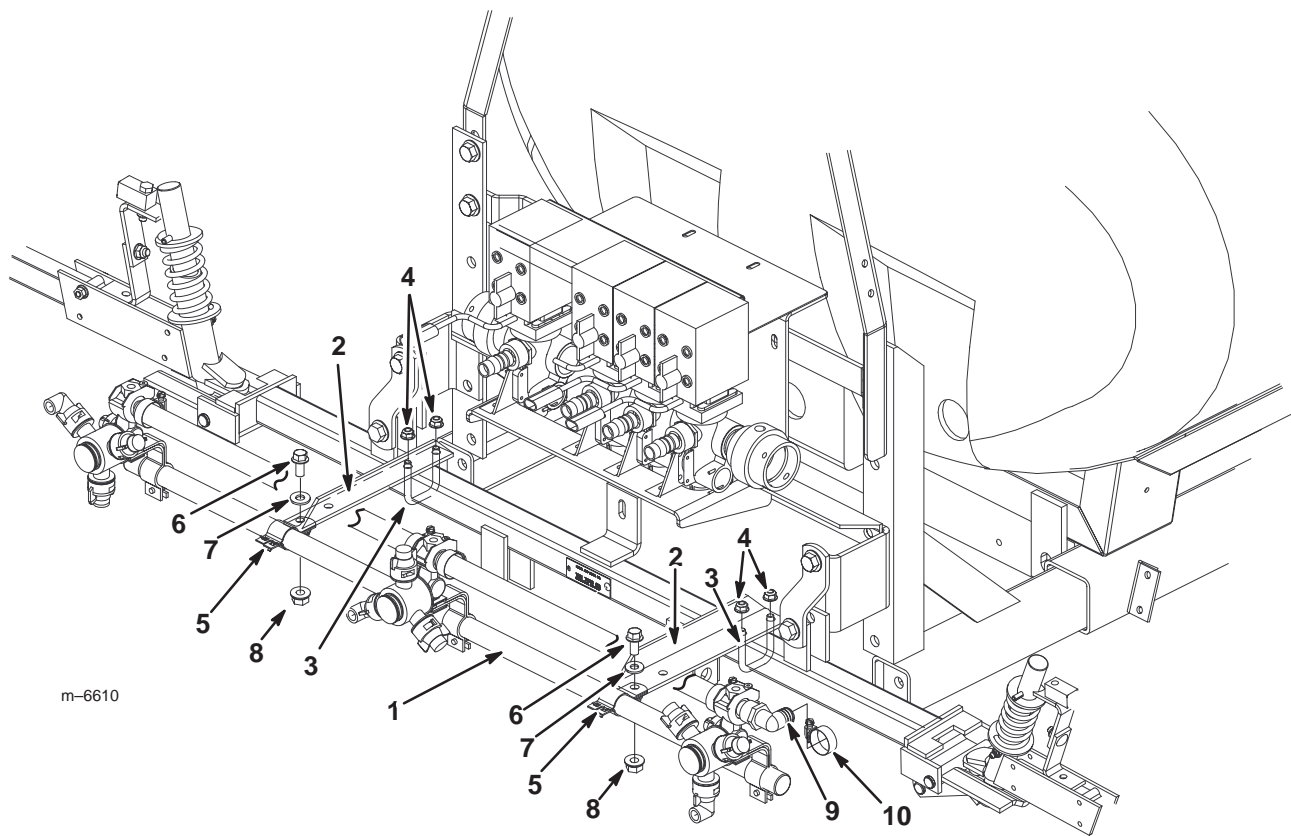

Figure 3
4. Install the 2 boom mounting brackets onto the center boom frame (Fig. 3) using 2 U-bolts and 4 flange nuts (5/16 inch).
5. Loosely attach the center boom to the boom mounting brackets (Fig. 3) using 2 boom clamps, 2 bolts (3/8 x 1 inch), 2 washers (1 inch), and 2 flange nuts (3/8 inch).